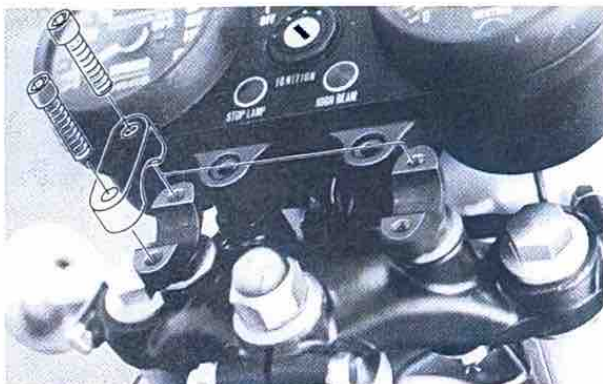

Fig. 23
16. Remove the four hexagon socket head bolts, and remove the two upper handle holders. (Fig. 23)